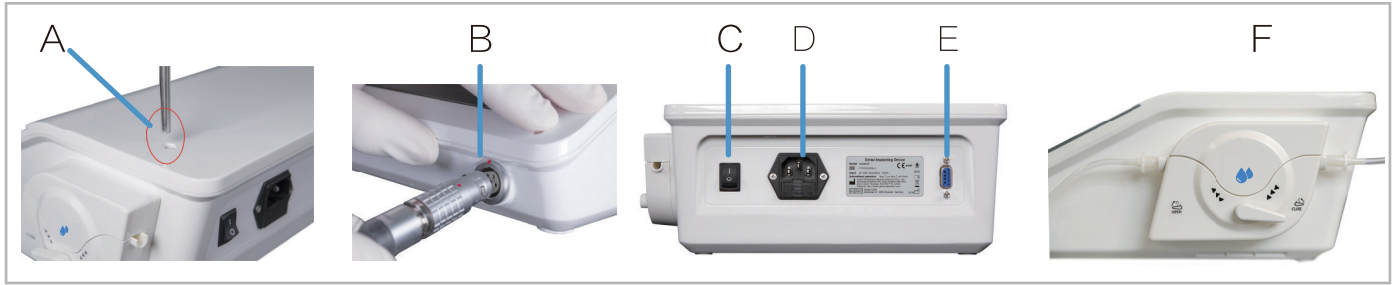

Figure 4
Connect the foot pedal plug to the foot pedal socket and tighten those two fixing screws (Figure 4 - E)
Plug the power cord output into the power supply socket of the device (Figure 4 - D)
Insert the infusion bottle holder into the fixing hole on the right rear of the shell; (Figure 4 - A)
Plug the tail cord of motor into the output socket on the front of the device (Note: align the red marking point). (Figure 4 - B)
4.2.8 Switch on (Figure 4 - C) ; start to use the machine as it display normally: